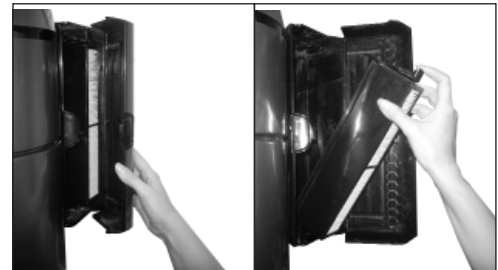

Figure 7
5. Close HEPA door without force. If the door does not close easily, remove and reinstall filter (Figure 7).